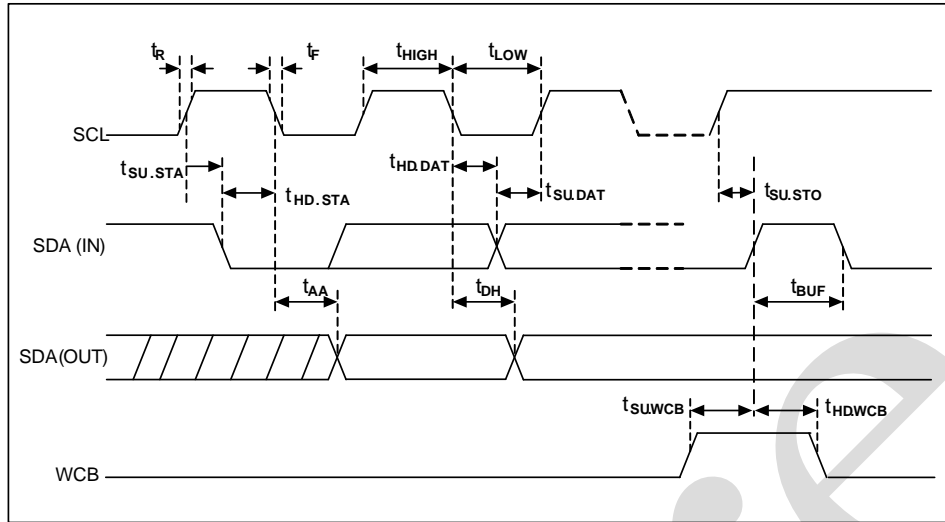

Figure 4-5
4.1.7、Bus Timing (see Figure 4-5)